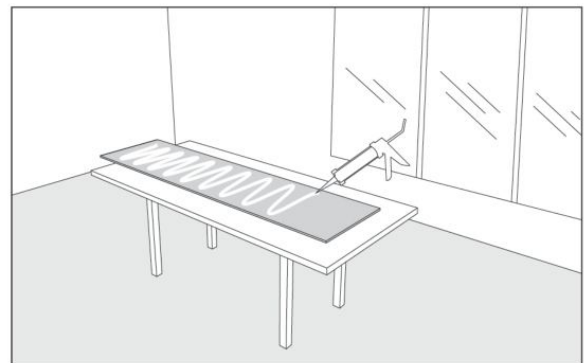

Fig.17
- You can apply adhesive to the back of the mineral core wall panel or apply it directly to the wall surface.(Fig.17 and 18)
- You can apply adhesive to the back of the mineral core wall panel or apply it directly to the wall surface. (Repeat Fig.17 and 18)